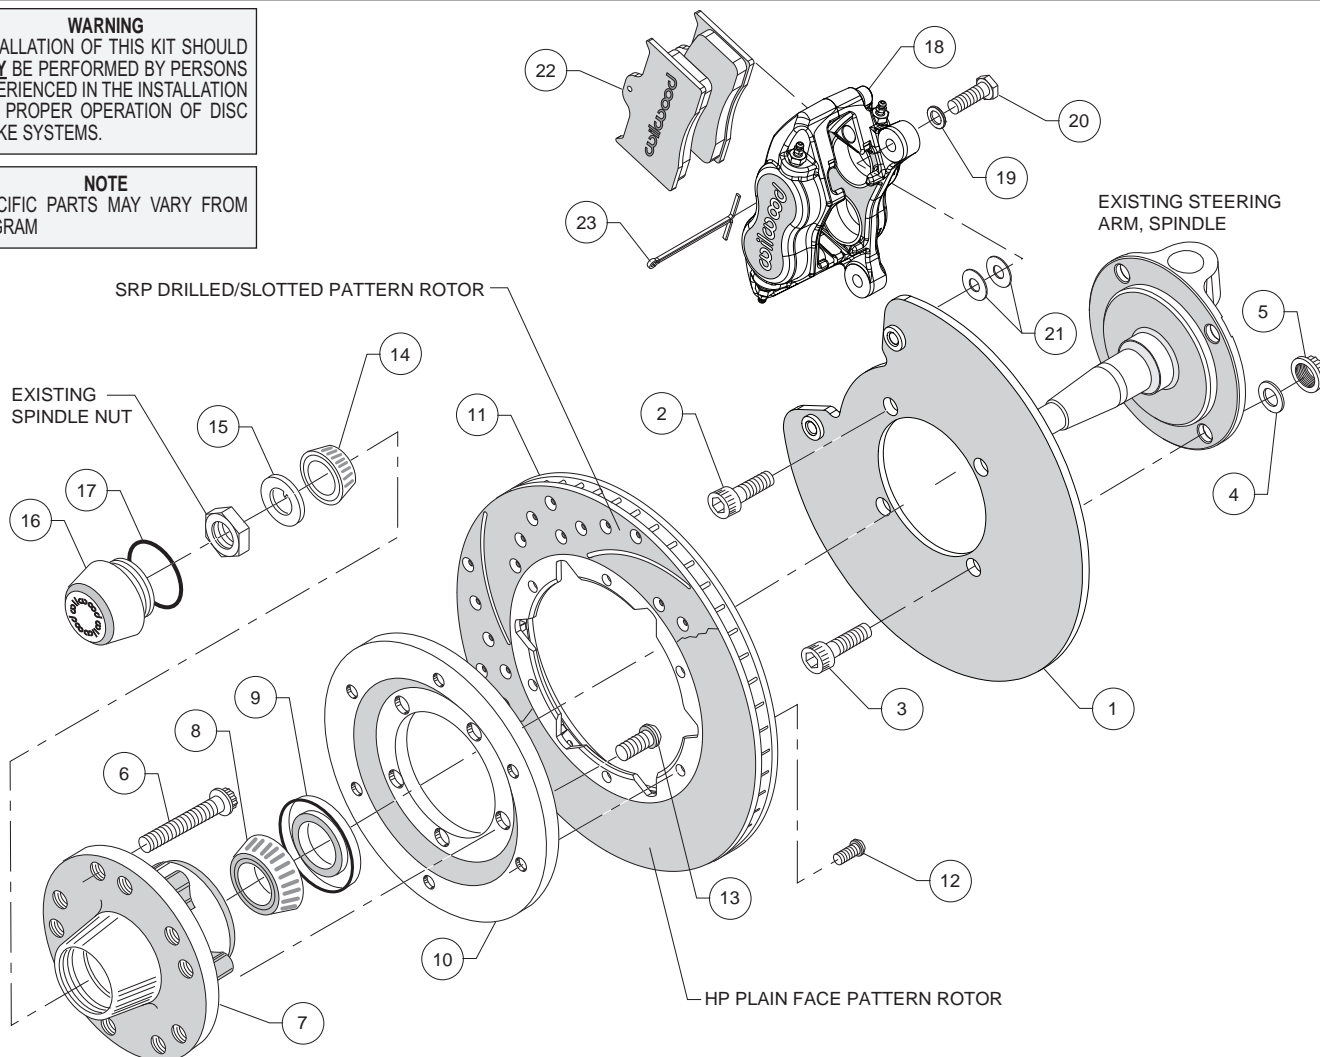
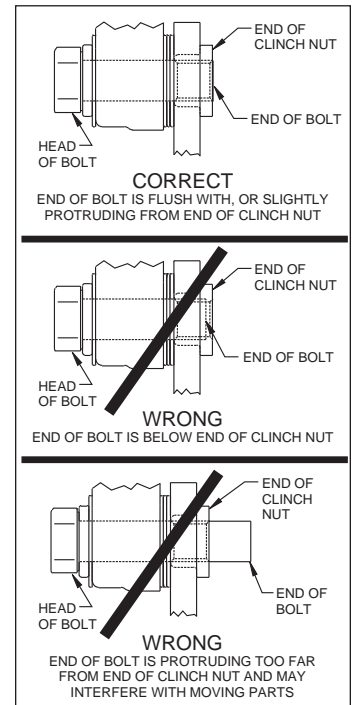

Figure 1. Typical Installation Configuration
Figure 3. Clinch Nut Engagement Diagram
Assembly Instructions (numbers in parenthesis refer to the parts list, on the preceding page and Figure 1): **CAUTION:** All mounting bolts must fully engage clinch nuts. Be sure to check that all bolts are either flush or protruding through flanged side of clinch nut after shimming, Figure 3.
- Orient the caliper mount bracket (1) as shown in Figure 1. Install using bolts (2) threaded into the steering arm and bolts (3), washers (4), and locknuts (5), Figure 1. Ensure that the flanged heads of the clinch nuts in the bracket are facing outboard, Figure 1. Temporarily tighten the mounting bolts. **NOTE:** The bracket must fit squarely against the mounting points on the spindle. Inspect for interference from casting irregularities, machining ridges, burrs, etc. Torque locknuts (5) to 65 ft-lb. Apply red *Loctite*® 271 to the threads of bolts (2) and torque to 80 ft-lb.
- Orient the rotor (11) and the rotor adapter (10) as shown in Figure 1 and Photo 4. Attach the rotor to the adapter using bolts (12). Using an alternating sequence, apply red *Loctite*® 271 to the threads, and torque to 25 ft-lb.
- Mount the adapter/rotor assembly (10/11) to the hub (7) using bolts (13), as shown in Figure 1 and Photo 5. Using an alternating sequence, apply red *Loctite*® 271 to the threads, and torque to 45 ft-lb.
- NOTE:** Please reference the caution statement at the beginning of the assembly instructions. Mount the caliper (18) onto the caliper mounting bracket (1) using bolts (20) and washers (19), as shown in Figure 1. Initially place two .035" thick shims (21) on each bolt between the caliper and the bracket, Photo 8. Temporarily tighten the mounting bolts and view the rotor (11) through the top opening of the caliper. The rotor should be centered in the caliper, Photo 9. If not, adjust by adding or subtracting shims between the bracket and the caliper. Always use the same amount of shims on each of the two mounting bolts. **NOTE:** The end of each bolt must be flush with or slightly protruding from the head of the clinch nut, as shown in Figure 3. If necessary place spare shims between washer (19) and caliper mounting ear to achieve the proper clinch nut engagement. Once the caliper alignment and clinch nut engagement are correct, remove the bolts one at a time, apply red *Loctite*® 271 to bolt threads, and torque to 40 ft-lb..